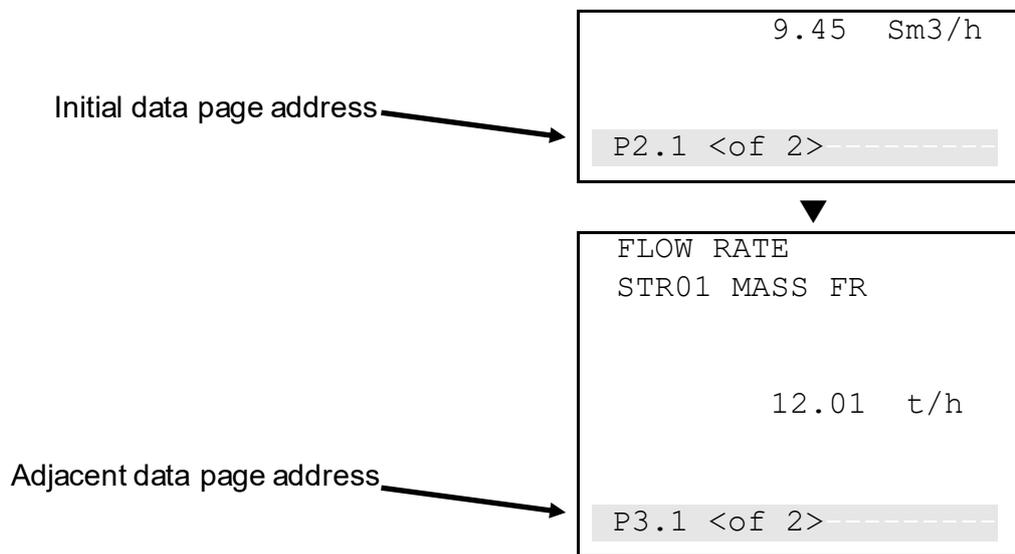

Figure 5-9. Moving between Data Pages
*Figure 5-9* shows that you can press **▼** or **▲** to quickly access adjacent data pages. The data page address changes as you move from page to page.